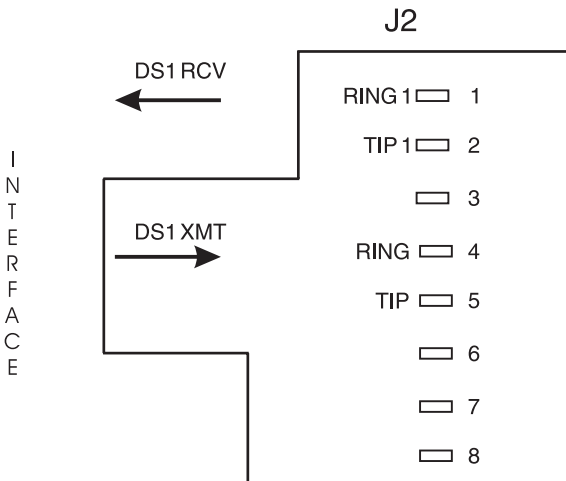

Figure 5. HRE-420 List 1B, RJ-48C Pin Assignments
The HRU DS1 CPE interface ports can be connected to either the RJ-48C (see Figure 5), located on the rear panel of the HRE-420, or directly to TB1. If TB1 is used, connect the DS1 output from the CPE (XMT) to TB1-9 (T) and TB1-10 (R). Connect the DS1 input to the CPE (RCV) to TB1-7 (T1) and TB1-8 (R1).